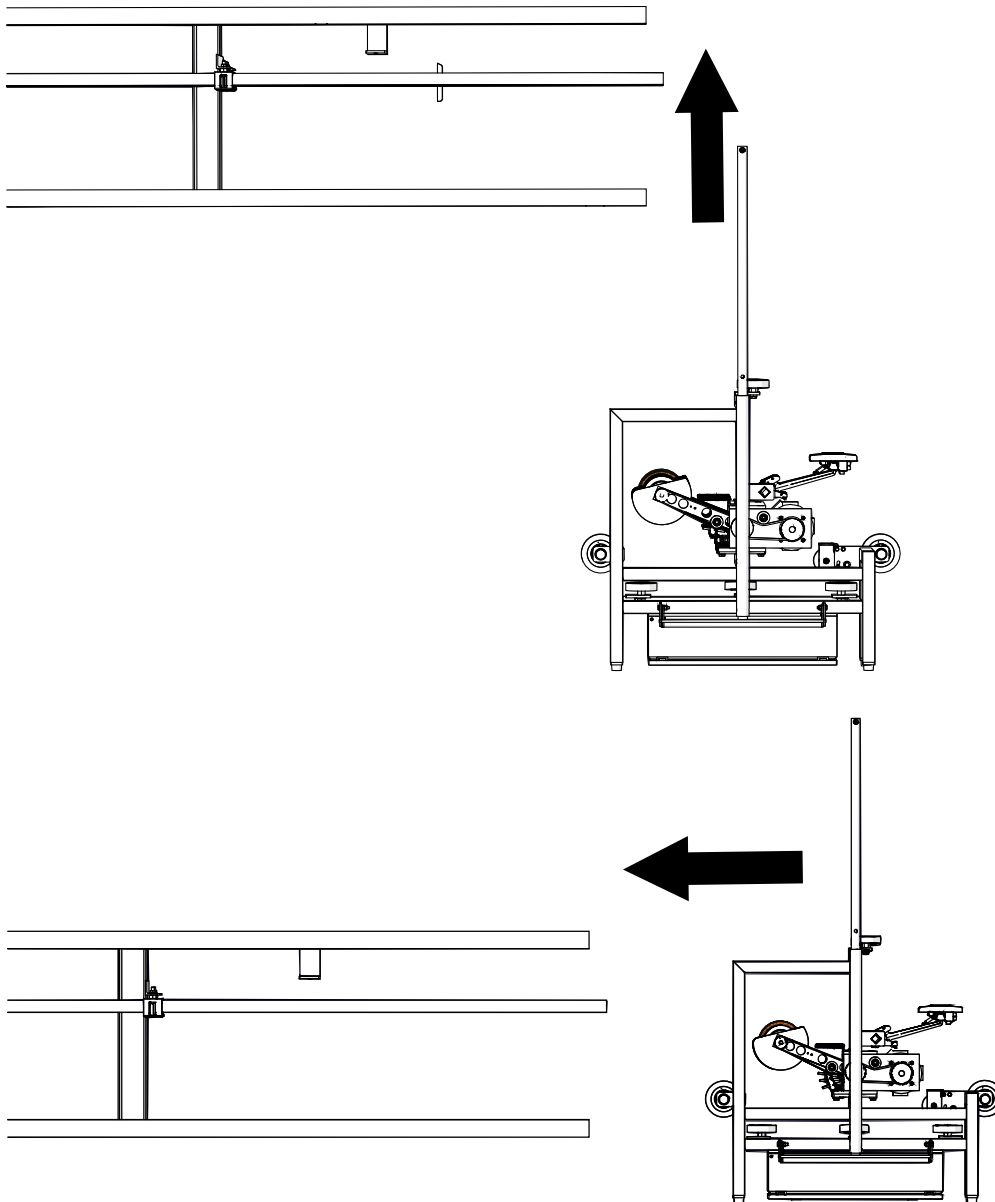

Fig. 11: Lift the cleaning device and drive it near to the “drive-in zone”
4. Bring the cleaning device (with the forklift) in position (see Fig. 11).